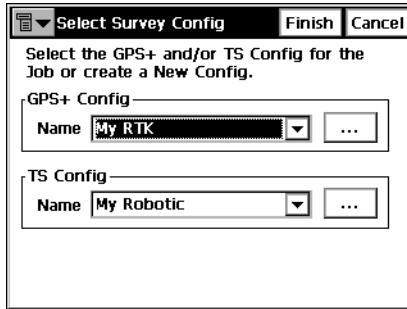

Figure 2-37. Select a Survey Configuration
3. Click **Job->Config->Survey** to open the Select Survey Config dialog box (Figure 2-37).
4. From the GPS+ Config drop-down list, select My RTK, or the name of your GPS+ survey configuration, and click the “...” (continue) button (Figure 2-37).